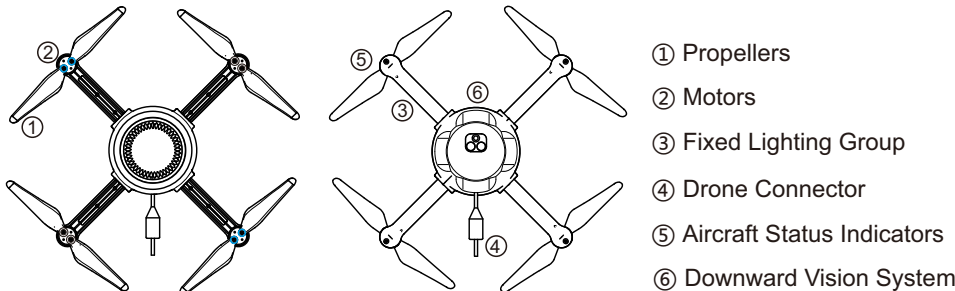

Figure 5-1: Schematic diagram of drone composition
- ① To power on or use the mooring integrated box, you need to connect an external power supply.
- ② By default,when the drone is hovering in the air,please turn off the automatic cable retraction switch.
- ③ When the system is disconnected from the external power supply, the backup battery of the tethered box will supply power to the box and the drone, and the buzzer of the case will start to alarm, and the backup battery will stop supplying power after about 5 minutes (If you want to stop the power supply from the backup battery of the tethered box quickly, please press the “Cable Retracting Switch” button on the top of the tethered box 10 times within 15 seconds).
d. Composition of the drone (Refer To Figure 5-1)